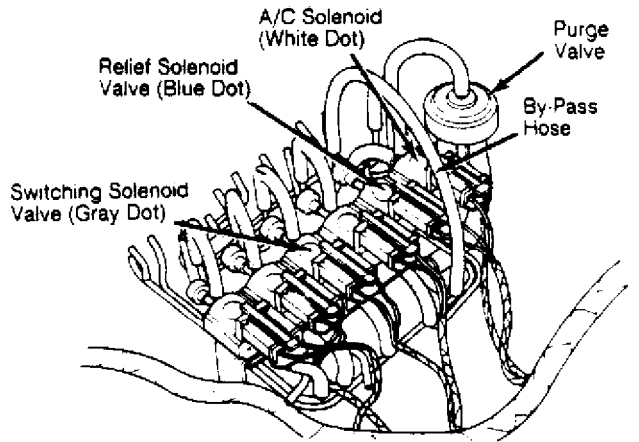

Fig. 2: Hose Arrangement for Checking Air Control Valve Operation
- 3) Using rubber hose, by-pass relief solenoid valve by connecting vacuum lines on each side of relief valve together. See Fig. 2. This will cause manifold vacuum to be routed directly to air control valve.